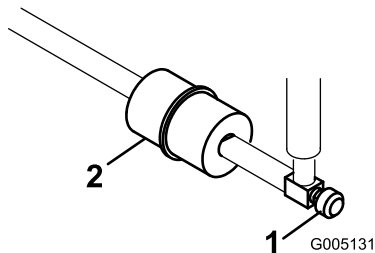

Figure 36
The in-line fuel filter is in the fuel line between the fuel tank and carburetor (Figure 36).
1. Close the fuel-shutoff valve (Figure 36).
2. Place a drain pan under the filter, loosen the hose clamp on the carburetor side of filter, and remove the fuel line from the filter (Figure 36).
3. Loosen the other hose clamp and remove the filter (Figure 36).